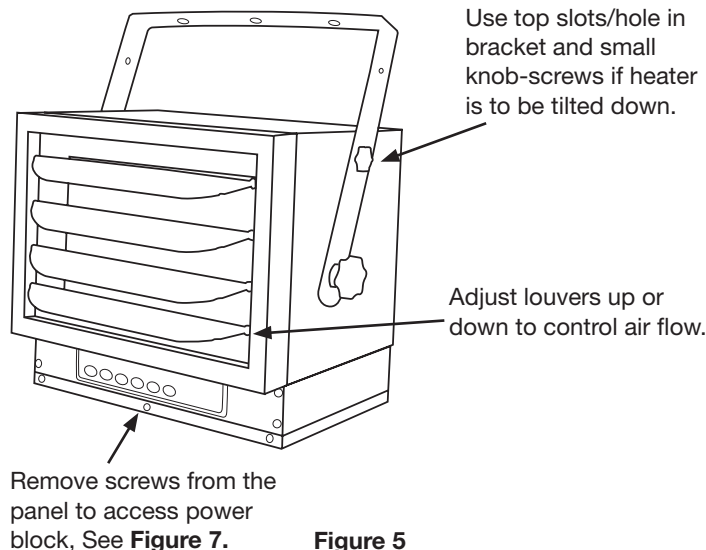

Figure 5
and secure with the small knob-screws and tighten all. See **Figure 5**.
2. **Tilt the unit-** Loosen the top Small Knob-Screws and thread into provided holes in heater until tight. See **Figure 5**.
3. **Adjust the louvers** in front of the heater as desired. See **Figure 5**.